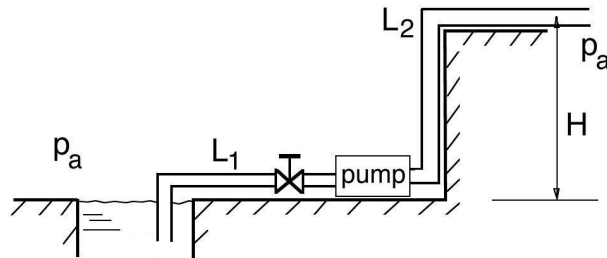

Figure P8.49
8.49 Water of density 1000 kg/m^3 is pumped from a sump tank up a distance of H before exiting to atmospheric pressure, as shown in Figure P8.49. The entrance and exit have a loss coefficient of $K = 1$. Each bend also has a loss coefficient of K , but the valve has a loss coefficient of $2K$. The pipe has a diameter D , $L_1 = L_2 = 50D$, and the friction factor $f = 0.01$. Find the power expended by the pump if the volume flow rate is 40 liters/s , given that $D = 50 \text{ mm}$, and $H = 2 \text{ m}$. Assume that the flow in the pipe is turbulent.